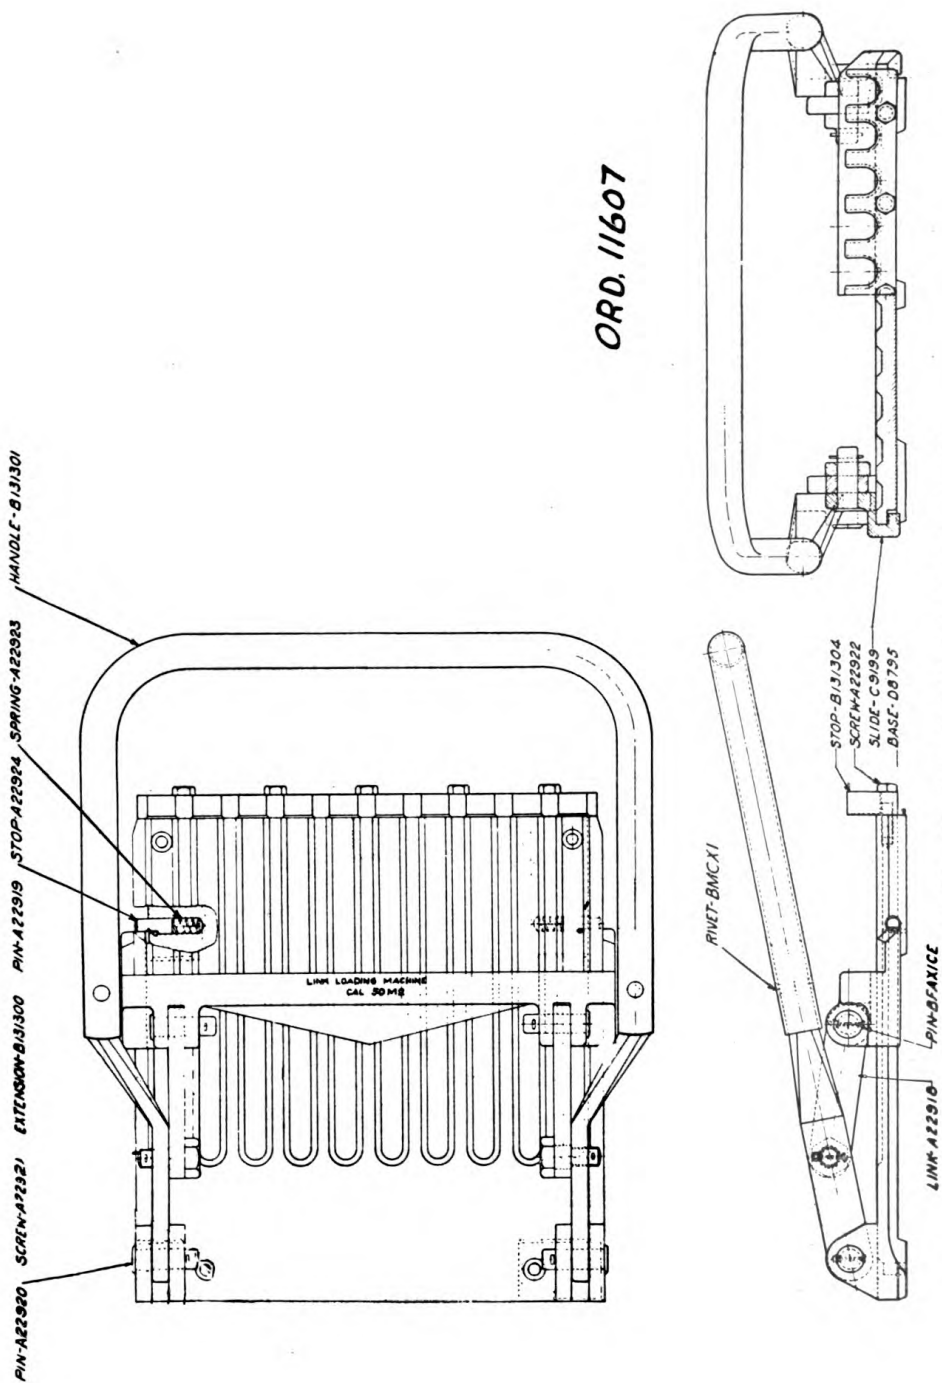

FIGURE 33.—Machine, link loading, caliber .50, M2.
(5) *Machine, link loading, caliber .50, M2.*—The link loading machine (fig. 33) is used for rapid loading of ammunition into metallic links. It may be screwed to a bench, ammunition box, or other suitable support when in use, screw holes being provided in its base for this purpose. Links, properly assembled, are placed on the loading bed adjacent to the U-shaped stops, and cartridges are placed in the grooves provided. The loading is performed by the operation of the loading handle which, when pushed forward to the stop, will load the cartridges to the correct depth in the links. Care should be taken to handle properly that portion of the loaded belt that is adjacent to the section being loaded.